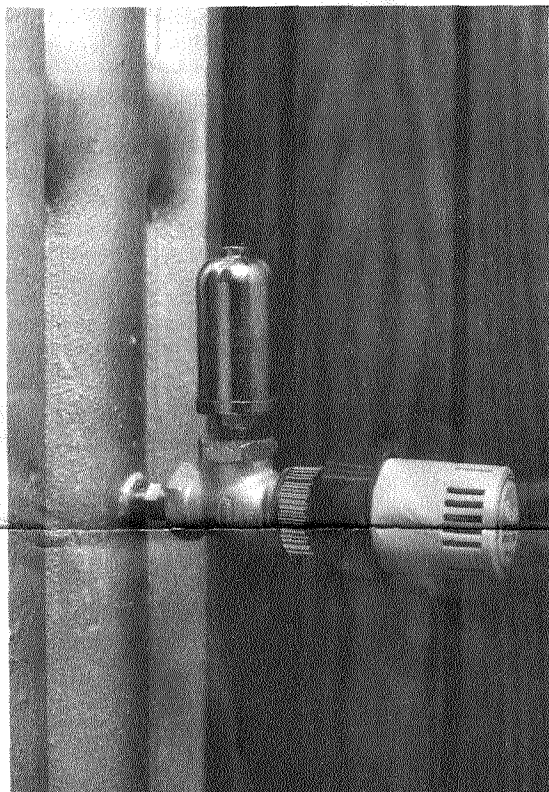

Figure 2
(1) Controls on the steam boiler must provide cycled steam pressure. Cycling the boiler can be accomplished by means of an automatic room thermostat or indoor/outdoor controller.
(2) Replace existing radiator steam air vent with the proper model and size Flair T.L.C. one-pipe steam valve. To avoid damage to the product, install the special air vent and the thermostatic operator after the valve body has been installed on the heat exchanger. The steam air vent must be in a vertical position. See Fig. 2 for typical installations. (If the heat exchanger and vent are located under a cover, the use of a remote sensing operator is suggested).